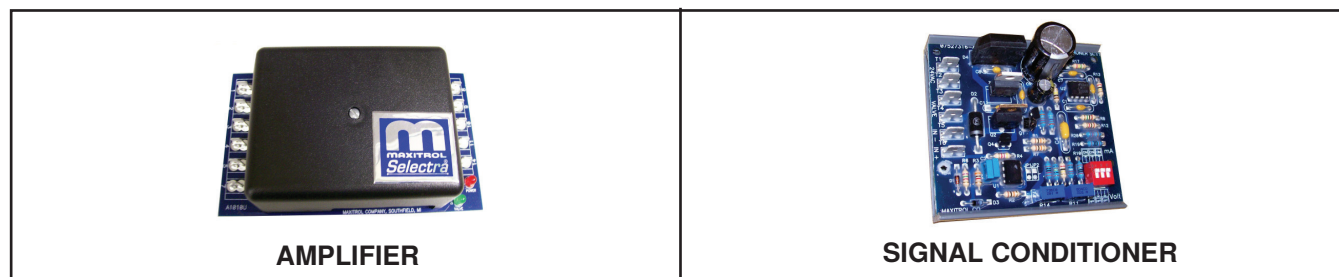
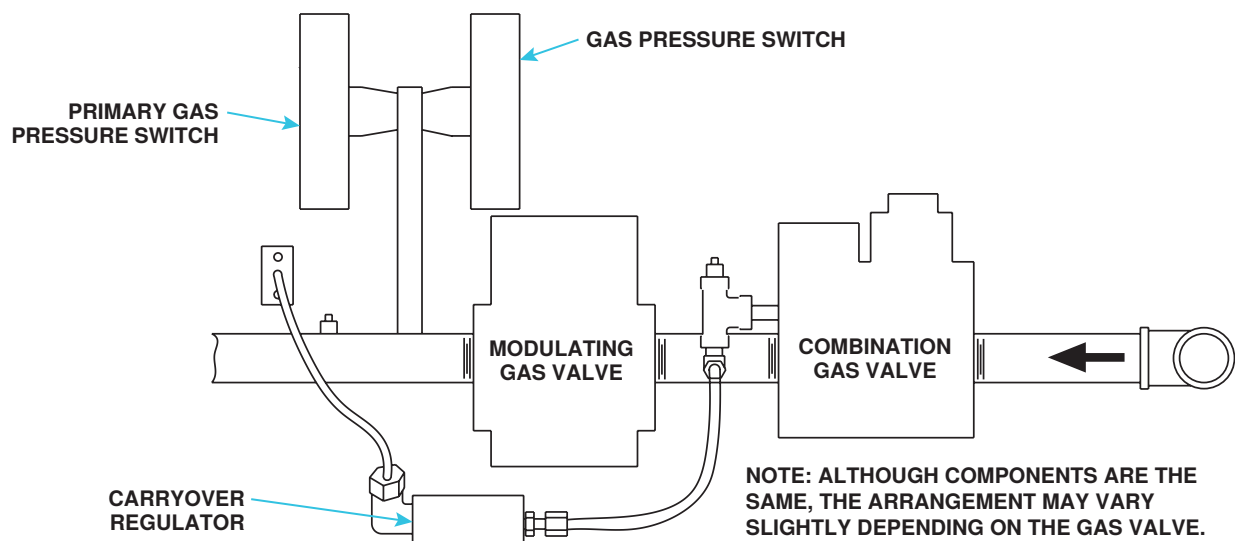

Figure 32. Maxitrol Amplifier and Signal Conditioner
Figure 33. Typical Manifold Arrangement with Electronic Modulation
- **Electronic modulation between 50% and 100% firing rate (option AG8):** Electronic modulation for makeup air application that is controlled by a duct sensor and temperature selector (55–90°F (12.8–32.2°C)). The temperature selector setting for option AG8 is on the amplifier (see Figure 32). Option AG8 is available with an override thermostat.
- **Electronic modulation between 50% and 100% firing rate (option AG21):** With option AG21, the furnace is equipped with a Maxitrol signal conditioner (see Figure 32) that operates much the same way as the amplifier above to control the regulator valve. The signal conditioner accepts an input signal of either 4–20 milliamps or 0–10V from a customer-supplied control device such as a computer. With the dip switches on the conditioner positioned to ON, the conditioner accepts a 4–20 milliamp signal. With the dip switches on the conditioner positioned to OFF, the conditioner accepts a 0–10V signal. The conditioner converts the signal to the 0–20V DC current required to control the modulating valve.
- **Electronic modulation between 20–28% and 100% firing rate (option AG39):** Depending on its size, a furnace equipped with option AG39 has a 20–28% turndown ratio. The furnace will ignite at any input rate in the available range and will maintain average thermal efficiencies equal to or greater than the thermal efficiency at full fire. The gas train (see Figure 33) includes a single-stage gas valve, a modulating valve, and two gas pressure switches. The burner rack is equipped with one flash carryover and a regulated gas lighter tube system. The carryover lighter tube receives its gas supply through the regulator simultaneously with the gas to the burner. Control of the system is through a Maxitrol amplifier (see Figure 32) with a corresponding remote temperature dial. The gas supply (refer to pressure requirements in Table 21) connects to the single-stage gas valve. To compensate for additional pressure loss through the modulating valve, the single-stage gas valve has a custom outlet pressure setting higher than when it is used on a standard gas manifold. The pilot tubing connects to the pilot port on the single-stage gas valve. When the valve receives a call for heat from the amplifier and pilot is established, gas flow from the single-stage valve goes to both the modulating valve and the regulated lighter tube system. When the signal from the amplifier to the modulating valve requires less-than-high fire operation, the modulating valve functions to lessen the gas flow to the burner to reduce the input rate to that which is necessary to maintain the desired temperature. When the input rate is reduced enough to decrease the gas pressure to 1.1 IN WC, the primary gas pressure switch in the manifold activates the gear motor that controls the bypass damper in the venter/combustion air system. The bypass damper opens to divert some of the incoming air directly into the flue duct to reduce air flow through the burner. Safety switches monitor the position of the bypass damper. When the gas pressure rises to > 1.1 IN WC, the bypass damper closes. This uniquely-designed modulation system requires combustion air pressure settings different from the standard system. Refer to Table 19 for the approximate combustion air proving switch settings at sea-level operation. Refer to the Troubleshooting Bypass Combustion Air Damper Safety Circuit on Units with Option AG39 or AG40 section for troubleshooting.
- Electronic modulation between 20–28% and 100% firing rate (option AG40):** With option AG40, the furnace is equipped with a Maxitrol signal conditioner (see Figure 32) that receives an input signal of either 4–20 milliamps or 0–10V from a customer-supplied control device such as a computer. With the dip switches on the conditioner positioned to ON, the conditioner accepts a 4–20 milliamp signal. With the dip switches on the conditioner positioned to OFF, the conditioner accepts a 0–10V signal. The conditioner converts the signal to the 0–20V DC current required to control the modulating valve. The heater functions and is equipped in the same way as option AG39 except that with computer control, the temperatures are selected through the software and there is no temperature selector or duct sensor. This uniquely-designed modulation system requires combustion air pressure settings different from the standard system. Refer to Table 19 for the approximate combustion air proving switch settings at sea-level operation. Refer to Table 21 for pressure requirements. Refer to the Troubleshooting Bypass Combustion Air Damper Safety Circuit on Units with Option AG39 or AG40 section for troubleshooting.